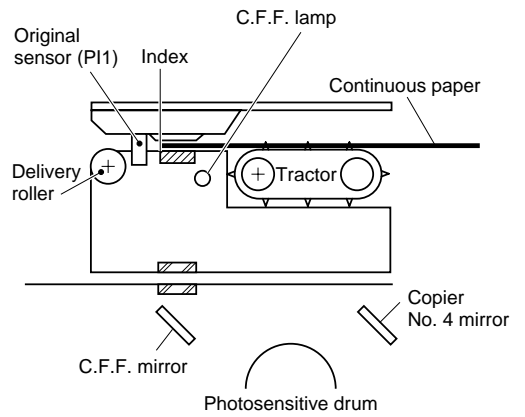

Figure 3-805
- 1 The Copy Start key (copier) is pressed. (Figure 3-805)